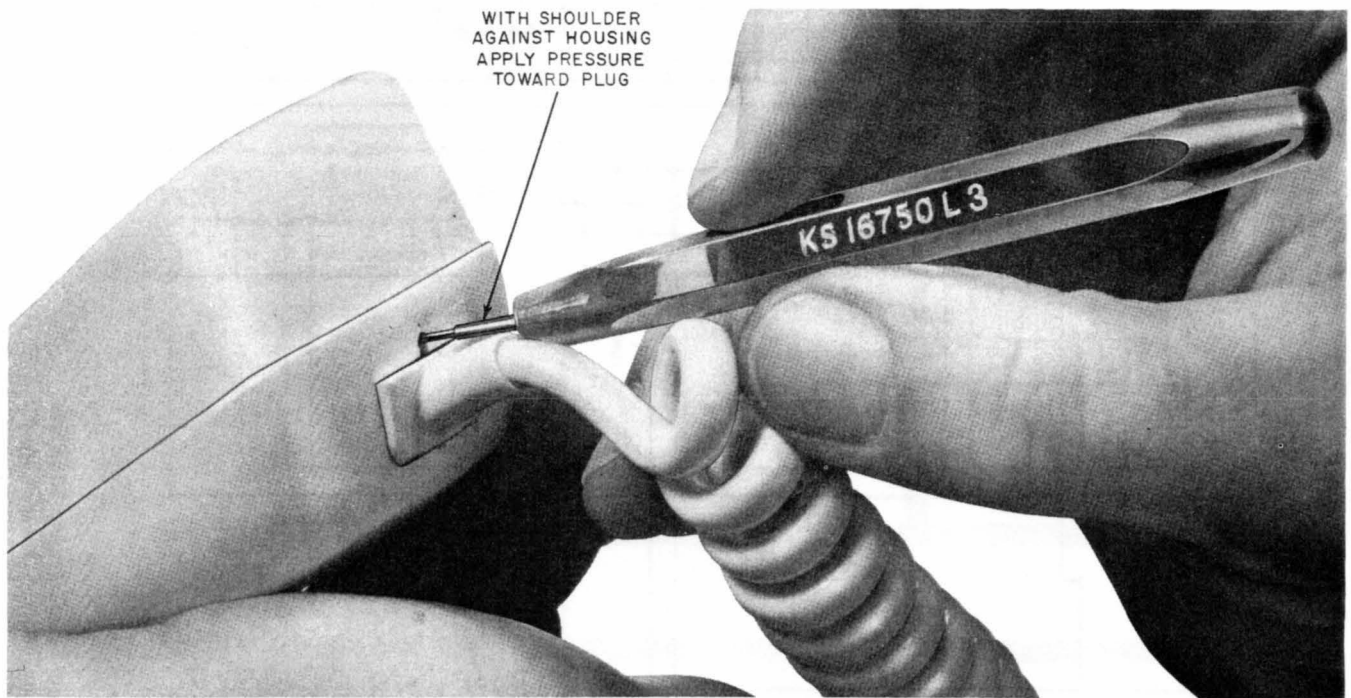
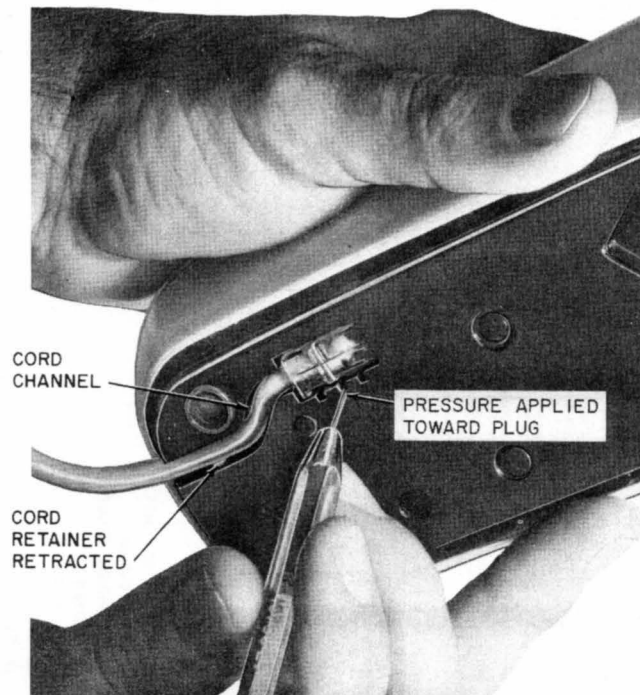

Fig. 12—Removing Cord From TRIMLINE Hand Telephone Set
Fig. 13—Removing Mounting Cord From AD1 Telephone Base
5.06 To replace a plug ended handset cord (Fig. 12) or mounting cord (Fig. 13) use a KS-16750 type releaser. Insert tool in space provided and apply pressure against spring clip toward body of plug. When spring clip has been depressed pull plug out of jack.